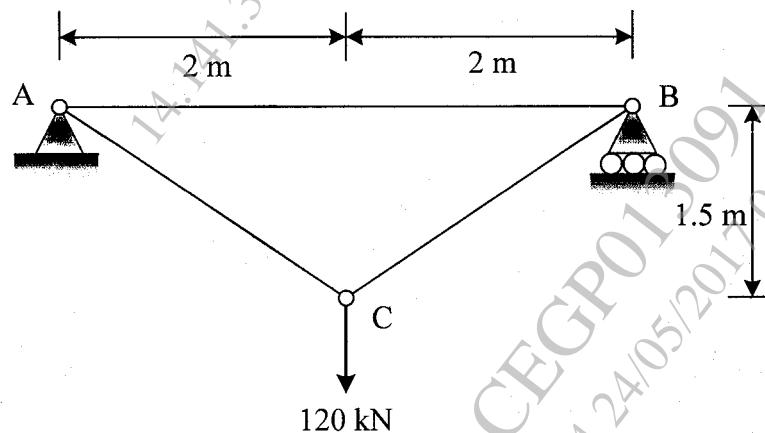

Fig. 2
3. (a) Find the vertical displacement of joint C for the pin jointed truss as shown in Fig. 2. The cross sectional area of the members AC and CB are  $800 \text{ mm}^2$  and the areas of the members AB is  $1000 \text{ mm}^2$ . Take  $E = 200 \text{ kN/mm}^2$ . [6]